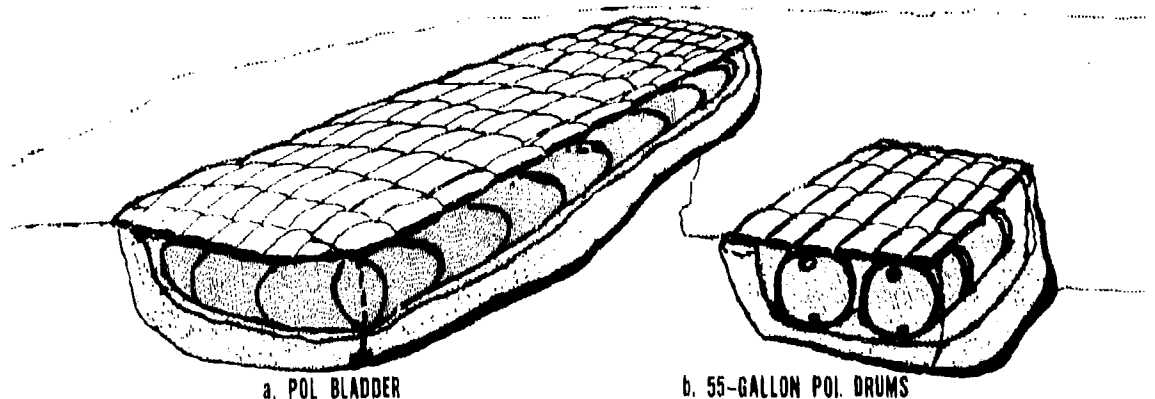

FIGURE 28. PROTECTING POL BULK STORAGE CONTAINERS.
--"Keep POL containers low." The most effective means of protecting fuel storage containers is to place them in a trench or pit just below the surface of the ground. Exposure to excessive translation forces and the missiles and debris that can rupture the containers is reduced, as is the initial exposure to the thermal pulse. More importantly, leakage of the total volume of POL in the container can be confined in the hole, preventing fuel from coming in contact with ignited debris in the area. The top of the container should be protected from initial thermal radiation and smoldering debris that may be blown onto the container. A thin layer of earth (1 to 4 inches) or sand bags is recommended (see figure 28).